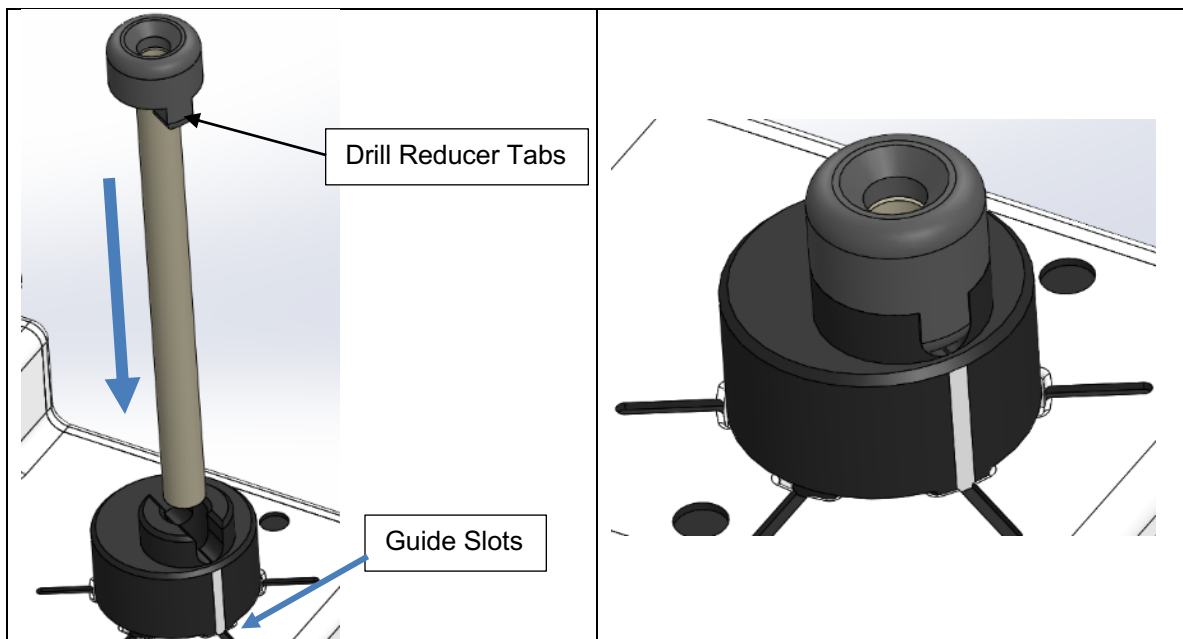

Figure 26: Drill Reducer Inserted into Drill Guide
9. Insert the Reducer Tube until it stops and the Reducer Tubes are fully engaged in the Drill Guide slots. This operation is the same whether using the Center Drill Guide or Offset Drill Guide. **See Figure 26.**